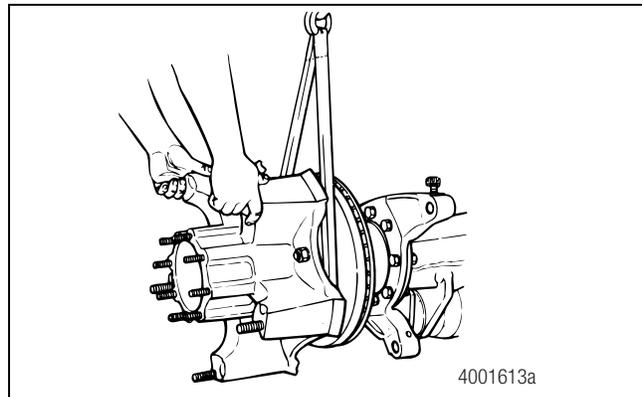

Figure 8.15
5. Use a strap or other lifting device to install the disc or rotor and wheel or hub onto the spindle. Figure 8.15.